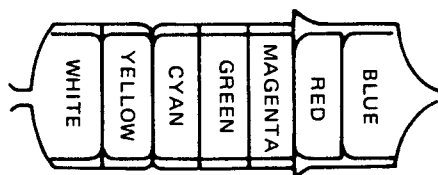

Figure 61.
2. Adjust T5703 so that the output of chroma signal becomes flat as shown in Fig. 61.